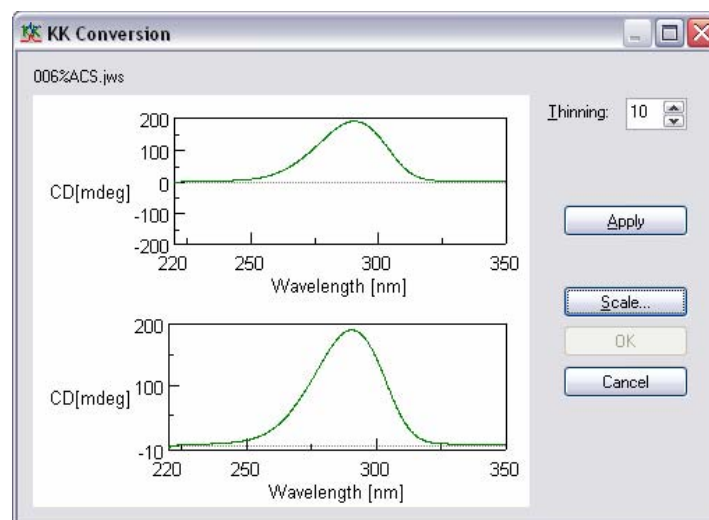
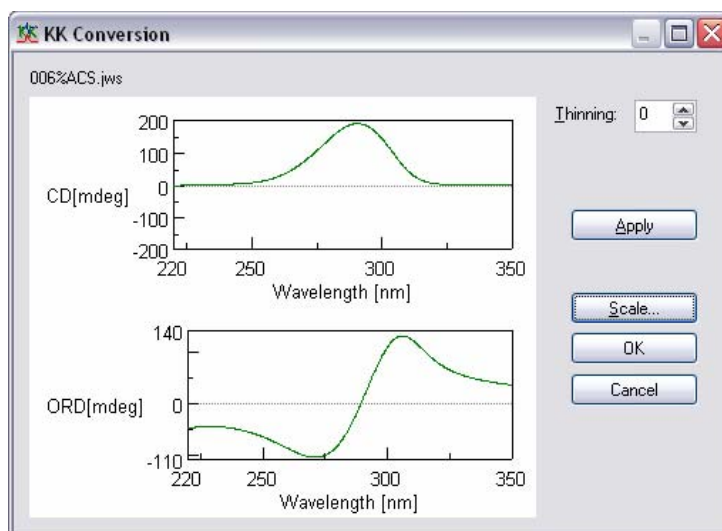

Figure 7.6 [KK Conversion] dialog box
Figure 7.7 [KK Conversion] dialog box
- (3) Click on the <Apply> button, and the dialog Fig. 7.6 is changed as Fig. 7.7.